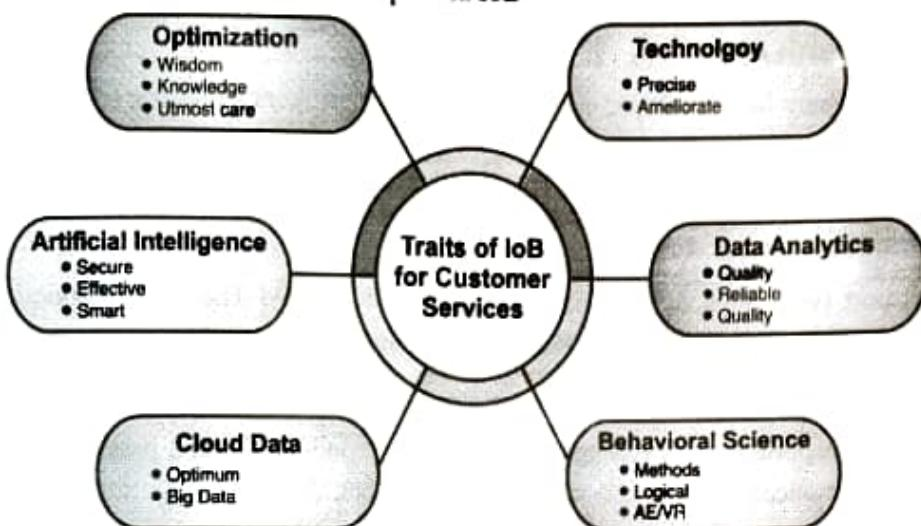

Fig. 6.7.1 : Different strategies of IoB for customer services
- As shown in Fig. 6.7.1, various tools, traits, and strategies associated with the Internet of Behavior (IoB), improves the overall customer satisfaction and make their purchase valuable and worthy.